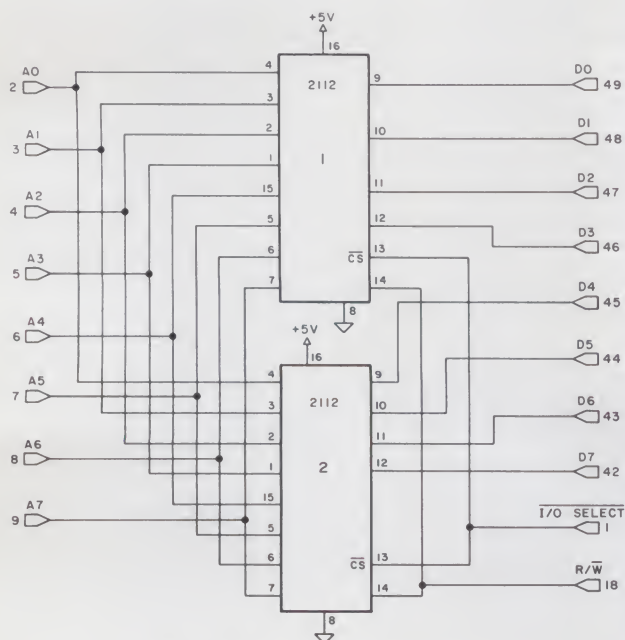

Fig. 5. Building a RAM board.
The chip select pin (CS) was hooked to I/O select, which goes low when CNXX is addressed, "N" being the slot number. The read/write pins of the RAM were attached to the hobby card read/write pin (Fig. 5). Putting the card in slot #4 and using the programmers aid ROM, I ran the test to check memory at locations C400 to C4FF and found no errors.